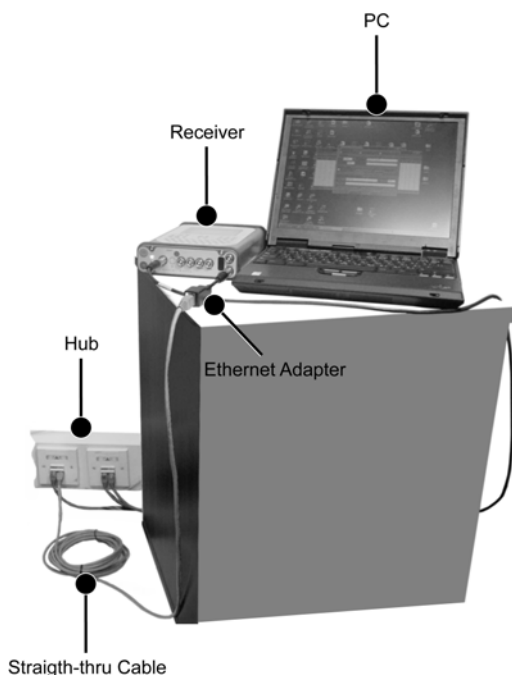

Figure 1-10. Receiver on LAN – Hardware Setup
10. Connect the Ethernet cables (Figure 1-10 on page 1-20).